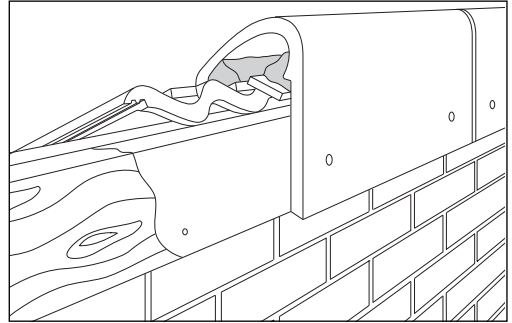

Fig 24 – Bedded mono-ridge tile with two screw fixings (concrete)
- 2 Lay mono-ridge tiles for Interlocking profiles as standard ridge tiles and mechanically fix each by using 2 No. 50mm x 10g stainless steel screws (supplied) to timber fascia behind vertical leg (Fig 24) (concrete mono-ridge tiles only).